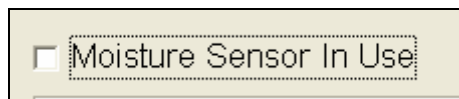

Figure 16.4.37D
- If you are currently using Moisture sensors click the **Moisture Sensor In Use** box (Figure 16.4.37D).